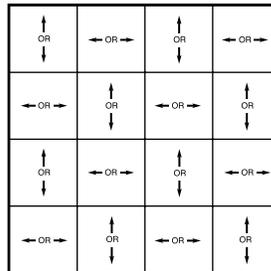
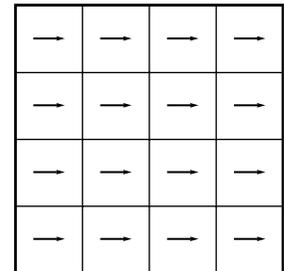
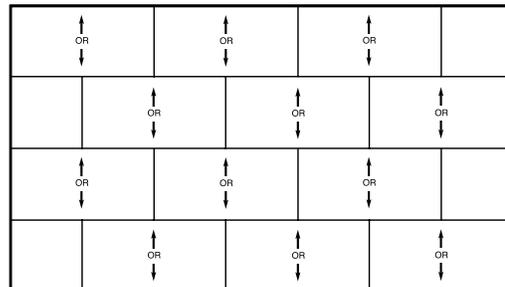

Fig. 1 - Turn tiles as shown.
Fig. 2 - Arrows in the same direction.
Fig. 3 - Install with arrows pointing in the opposite direction.
- For best visual results: For DuraCeramic Origins the directional arrows printed on the back of the tile should be installed following the illustration in (Fig. 1), with tiles turned randomly, i.e. north, south, east and west. For Oventions, install with directional arrows pointing in the same direction as shown in (Fig. 2). For DuraCeramic Dimensions, install all tiles with arrows pointing in the opposite direction following the illustration in (Fig. 3).